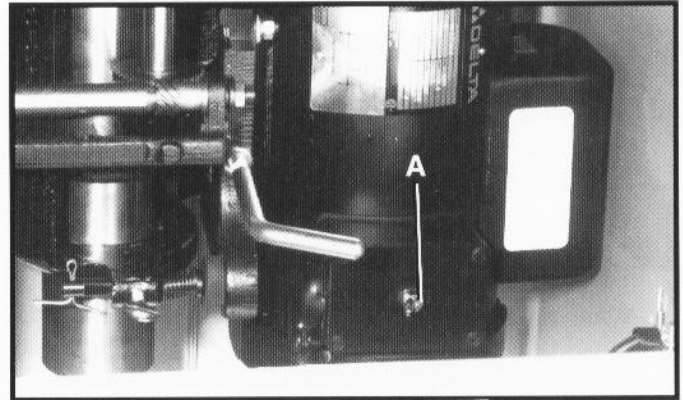

Fig. 23
If the shaper was purchased with a Delta motor, the motor is equipped with a reversing switch (A) Fig. 23, which is located on the motor junction box. **CAUTION:** Never attempt to reverse the rotation of the spindle with the motor running.